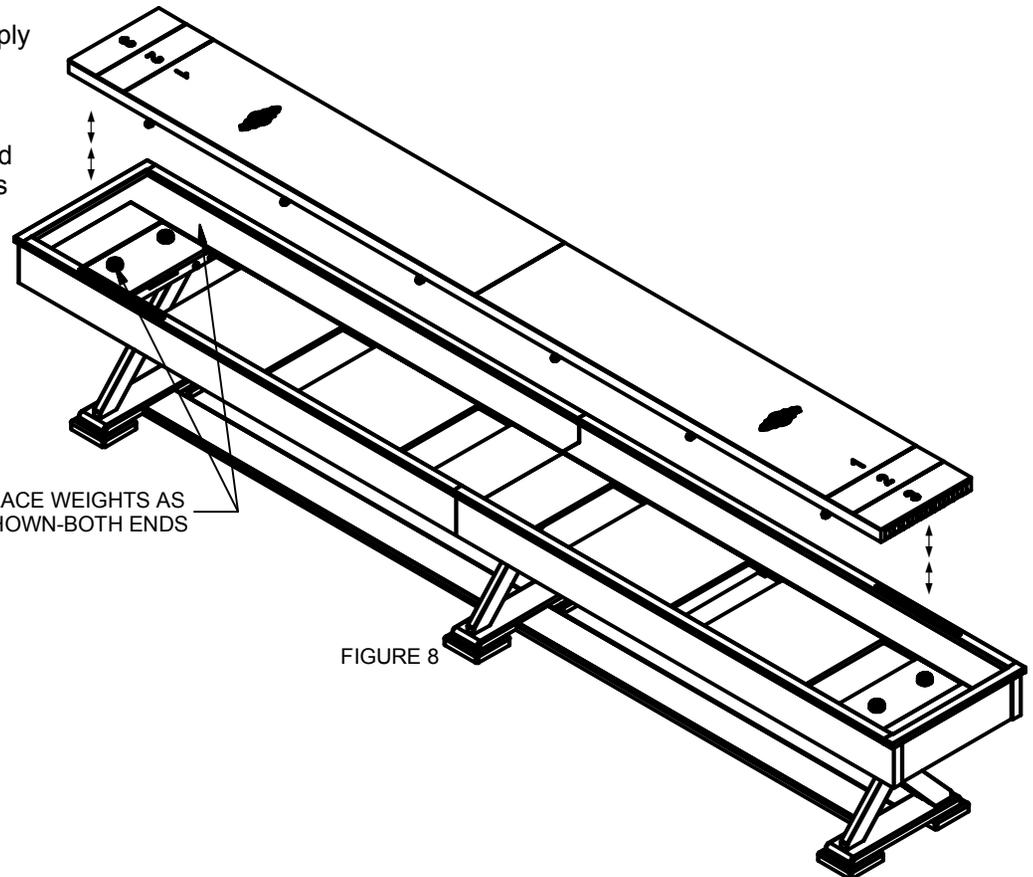

FIGURE 8
- Step 1: Place play field into the cabinet. For best results use weights, two on each end, to rest the play field on and prevent injury. Lift each end from under the cabinet, one end at a time, and remove the weights. Center the play field within the cabinet equally in both directions. (See Figure 8)